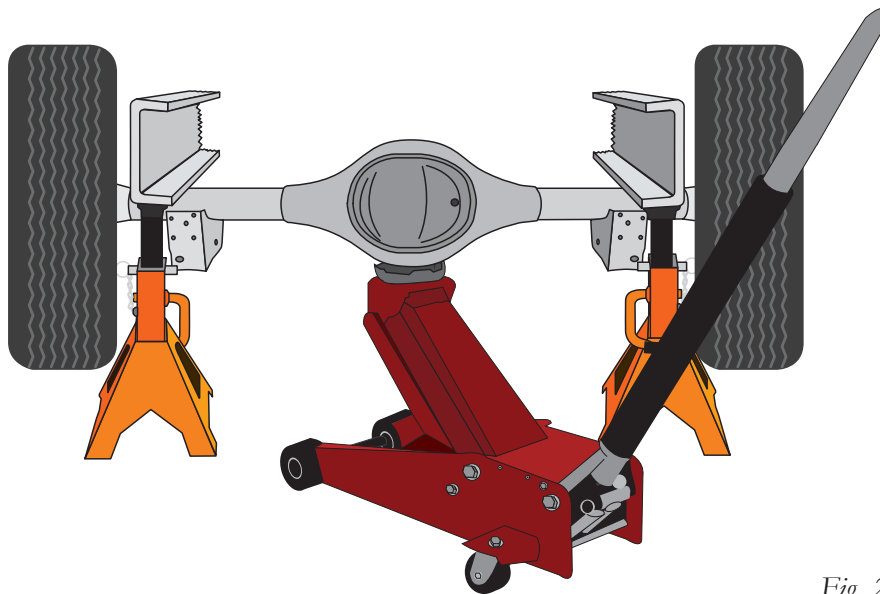

Fig. 2
1. Raise the vehicle and support the axle with safety stands, setting the safety stands as wide as possible on the axle (Fig. 2).